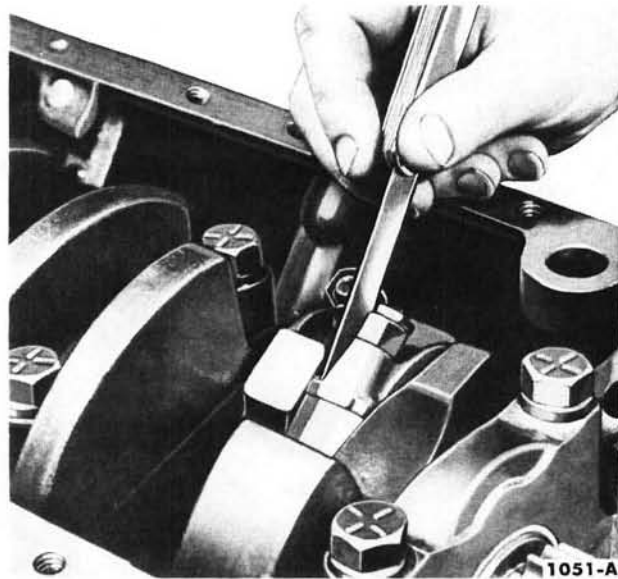

FIG. 45—Connecting Rod Side Clearance
5. After all the piston and connecting rod assemblies have been installed, check the side clearance between the connecting rods on each crankshaft journal (Fig. 45).